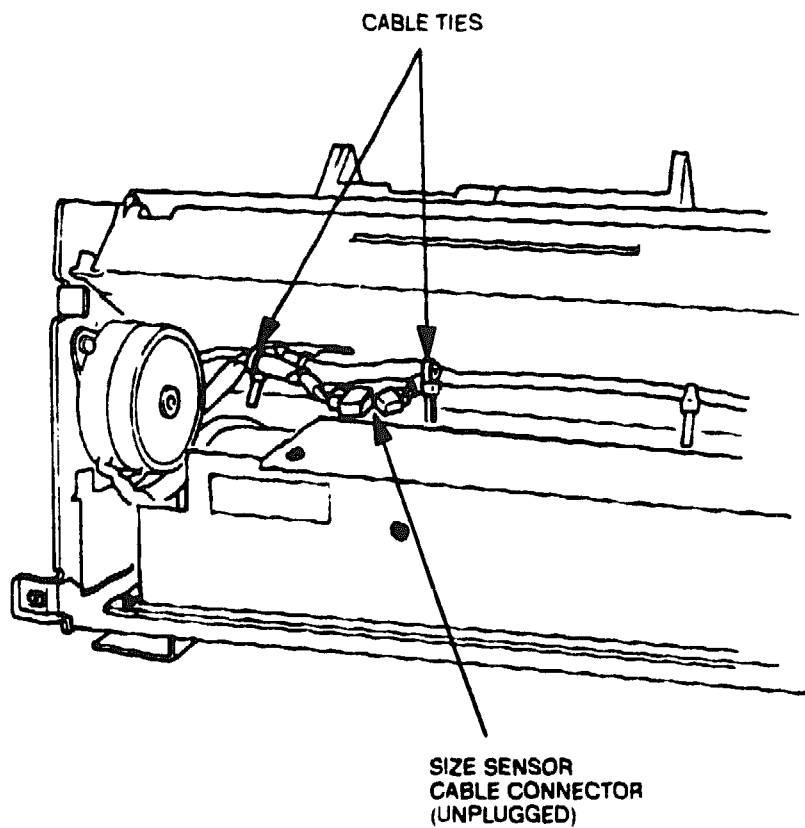

Figure 6-22 Size Sensor Cable Connector
4. Remove the two cable ties that fasten the size sensor cable to the CSG base frame. Then unplug the size sensor cable connector (see Figure 6-22).